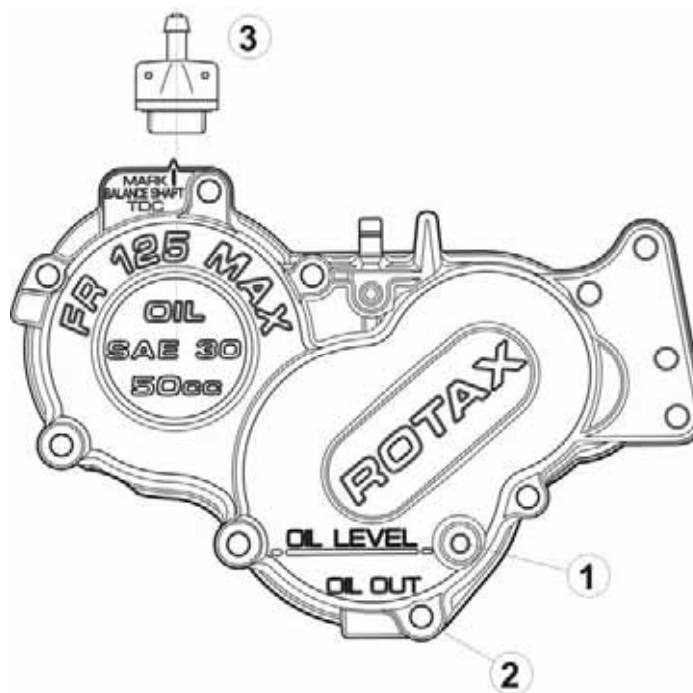

Fig. 3
→ Remove the Allen screw (1) and sealing ring (fig. 3). If no oil emerges through the tapped hole, remove the venting screw (3) and slowly fill in oil of specification SAE 15W40 until oil emerges at oil level checking screw (1). (Filling capacity on new engine is 0,05 l / 1,7 fl OZ (US)).